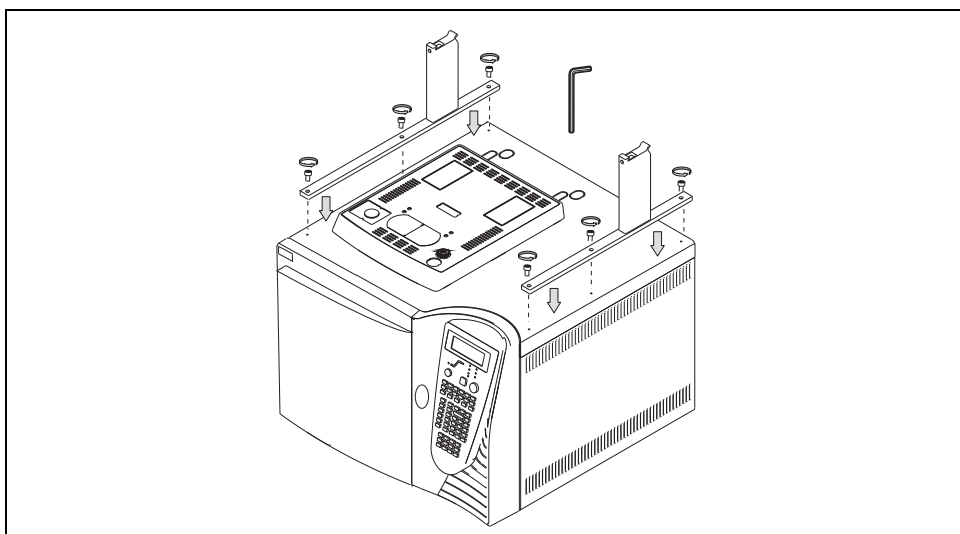

Figure 3-18. Sampler Supports Installation on the TRACE GC Ultra
3. Mount each sampler support on the TRACE GC Ultra paying attention to have the support leg turned toward the back of the GC as shown in Figure 3-18.